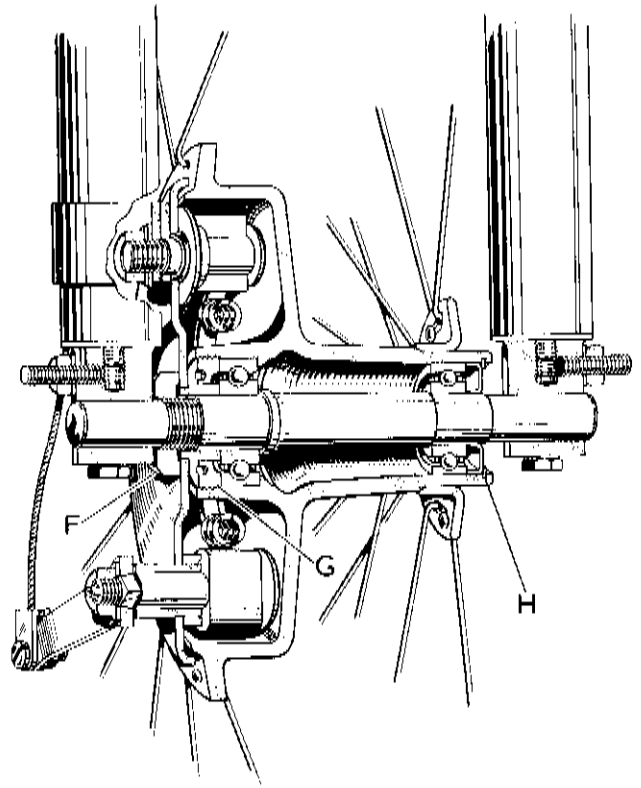

Fig. D30.
Unscrew the large nut (F) Fig. D30 on the spindle. This will be facilitated if the brake is applied by using a short length of tubing, such as a box spanner, over the brake arm.
Make sure that the cover plate nut (l') Fig. D30 is securely tightened, engage the torque arm bolt of the cover plate in the clip on the right-hand fork leg and replace the fork end clips. Before finally tightening the clip bolts pull the wheel towards the right hand fork leg.